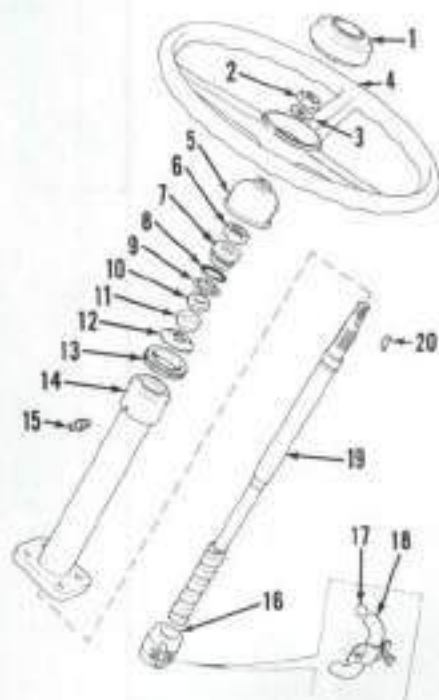
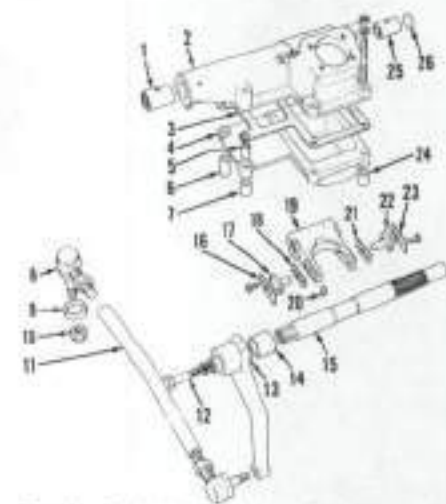
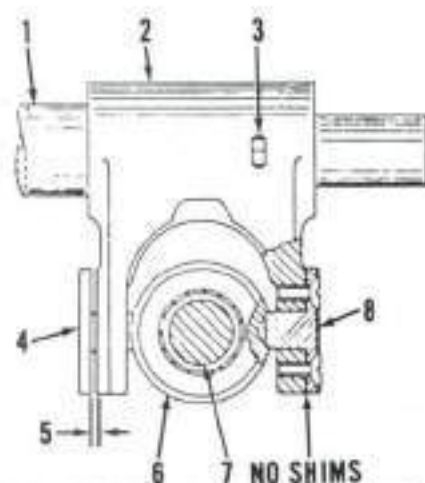

Fig. 43—Exploded view of steering column and related parts for 1190 models equipped with manual steering.
Fig. 44—Exploded view of steering box and its related parts used on 1190 models with manual steering.
Fig. 45—View showing method of selecting shims for correct ball nut preload. Refer to paragraph 53 for procedure.
50. To remove steering gear unit, remove steering wheel (4—Fig. 43) and dust seal (5). Disconnect controls and wiring to instrument panel. Remove drop arm (13—Fig. 44) and unbolt and remove instrument panel as a unit. Unbolt and remove steering gear assembly from transmission noting spacer (6, 7 and 24—Fig. 44) placement.
51. **DISASSEMBLY.** With steering gear and steering wheel removed, remove locknut (6—Fig. 43) and unscrew adjustable bearing cone (7). Remove the 12 loose bearing balls (9). Remove both ball nut pegs (17 and 22—Fig. 44) and shims (18 and 21), then withdraw steering shaft (19—Fig. 43) and ball nut assembly (16) from bottom of unit. Lower bearing race (10) and spherical seat (11) can now be removed from steering column (14) and rubber baffle (12) from steering shaft (19). Unscrew ball nut assembly (16) from steering shaft (19) and retrieve the 28 loose steel balls (17). Remove locating screw (20—Fig. 44) and withdraw cross-shaft (15).
If cross-shaft bushings (1 and 25—Fig. 44) are to be renewed, note size and location before removal for proper in-
**52. REASSEMBLY.** Remove transfer tube (18—Fig. 43) and place ball nut (16) over ball track on lower end of steering shaft (19). Insert steel balls (17) into ball nut until full, place remaining balls in transfer tube (18) with grease and fit tube to ball nut. Place rubber baffle (12) in groove on steering shaft and insert up through housing.
Position rocker arm (19—Fig. 44) in steering box (2) with stop down. Reinstall cross-shaft (15) and secure with locating screw (20).
**53. BALL NUT PEG PRELOAD.** Install one ball nut peg (8—Fig. 45) minus shims (18 and 21—Fig. 44) and tighten the two cap screws securely. Install second ball nut peg (4—Fig. 45) and tighten the two cap screws evenly only until inner end of peg causes ball nut to lightly bind. Using a feeler gage, measure gap between ball nut peg (4) and rocker arm (2). See 5—Fig. 45. Shims (18 and 21—Fig. 44) to be used in final assembly should be 0.025-0.076 mm (0.001-0.003 inch) less than measured gap (5—Fig. 45). Divide shims as equally as possible between the two ball nut pegs (17 and 22—Fig. 44) for installation and secure bolts with tab washers (16 and 23).
**54. STEERING SHAFT END PLAY.** Insert spherical seat (11—Fig. 43) on steering shaft (19) with flat face down, then install lower race (10) with round face in spherical seat (11). Drop in the 12 loose bearing balls (9). Install "O" ring (8) in groove of adjustable bearing cone (7) and thread onto steering shaft
**55. ADJUSTMENT.** Drag link ends are serviced as a unit only and must be renewed as such. Adjust length of drag link (11—Fig. 44) so spindle contacts stop on axle before internal steering gear stops wheel movement.